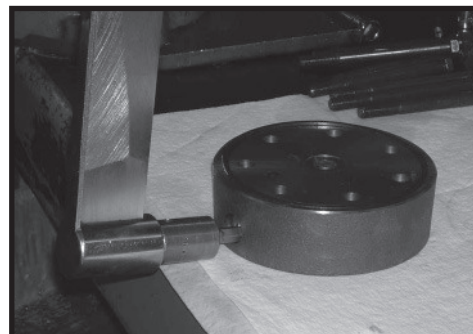

Figure 8
5. If the end cover (2) is equipped with shuttle valve or relief valve (24) components, remove the two previously loosened plugs (21) and o-rings (22). SEE FIGURE 8.